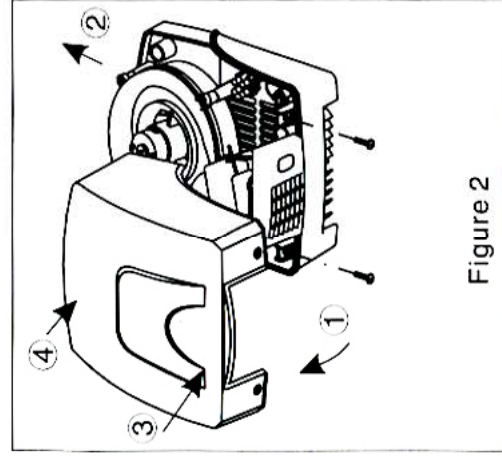

Figure 2
1. As showed in (Figure 2), remove two screws from the cover, follow Direction ①②, take off the cover.
5. Follow Direction ③④ in (Figure 2), put back the cover and fix it with the screws.